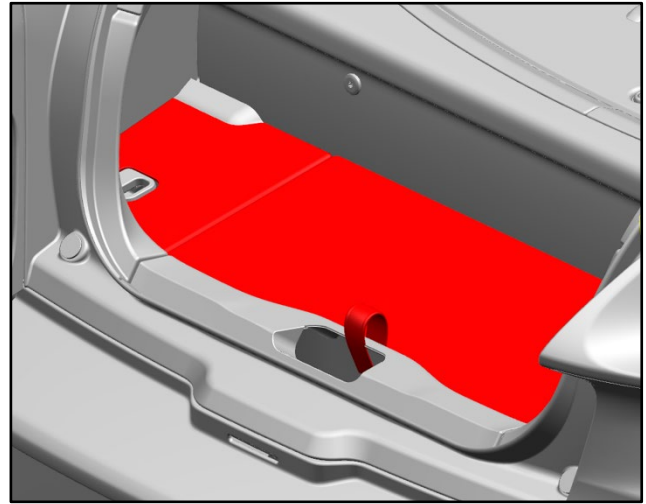

Figure 2
2. Remove the boot floor carpet (refer to Figure 2).